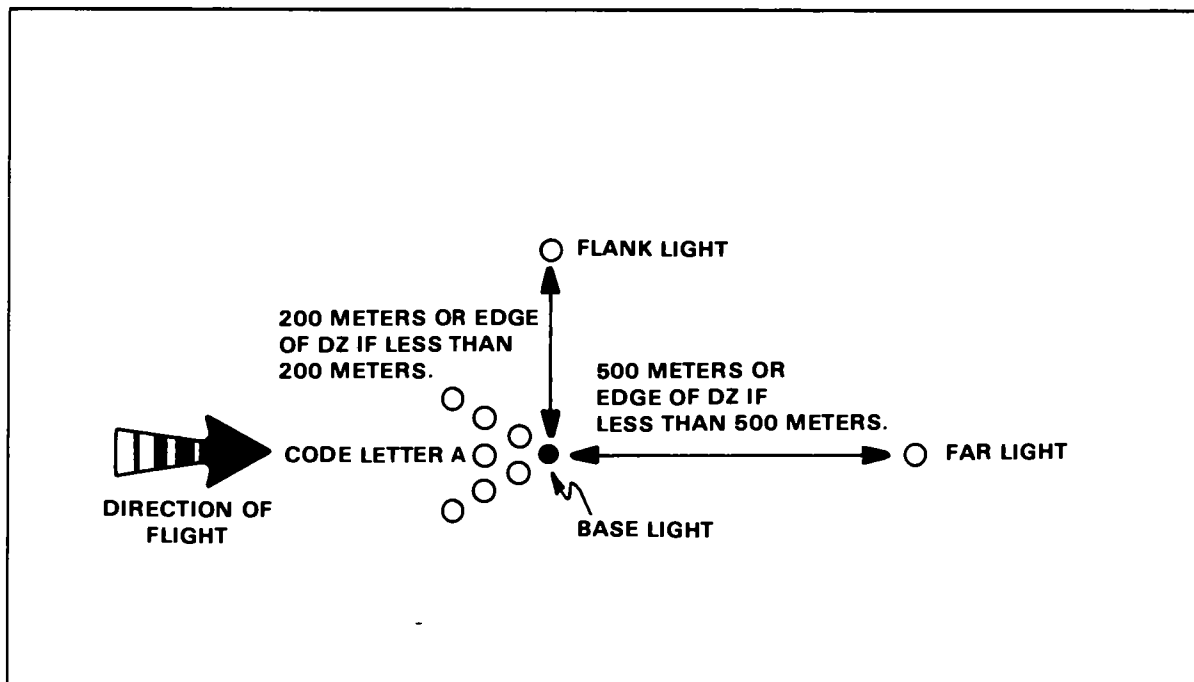

Figure 16-7. Day markings (VIRS). (per chg 1 25 June 91)
a. Day DZ Markings (Figure 16-7).
(1) The DZSO determines the release point. He then emplaces the code letter on drop heading with the base panel of the letter at the release point. The code letter is formed by VS-17G panels placed together. Each letter is two panels high and one panel wide.
(2) The flank panel is placed parallel to the code letter and aligned with the base panel. It is placed 200 meters (or at the edge of the DZ, whichever is less) to the left of the code letter.
(3) The far panel is placed 500 meters from or at the edge of the